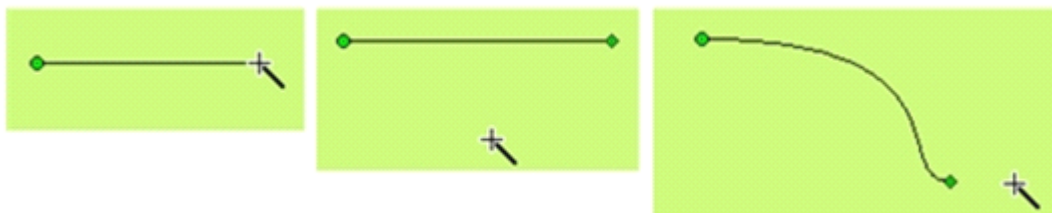
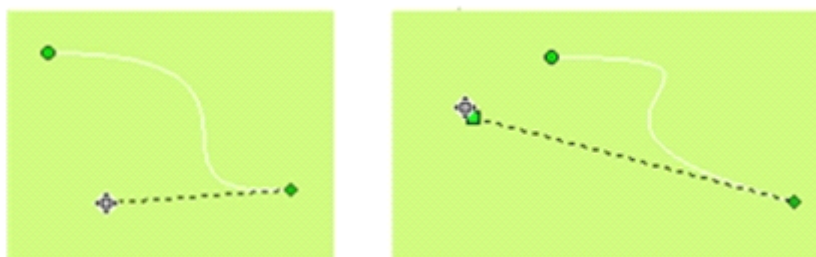

Figure 4-29: Drawing a curve/arc
Figure 4-30: Drawing a curve/arc
- At this moment, the mouse shape is still a cross. Move the mouse to another position where you want to set the end of the curve/arc, press down the left key of the mouse and drag the mouse to move in the screen. Then, release the mouse and right click it to complete the drawing process. See Figure 4-29.
- As shown in Figure 4-29, in the curve drawn the starting point is a green dot and the ending point is a diamond dot. This indicates that a curve/arc has been preliminarily drawn. Move the mouse to the starting point or the ending point, a dotted line will appear. The ending point of the dotted line is a square dot. Move the mouse to this dot, and then the mouse will become , press down the left key of the mouse, move it to an appropriate position, and release it to get desired radian. In addition, you can also move the starting point or the ending point to an appropriate position. See Figure 4-30.